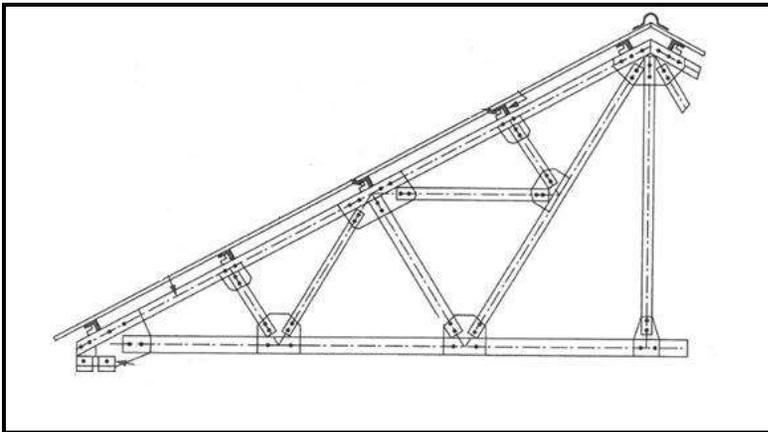

FIGURE 2.3
2.3 FIGURE 2.3 below shows half of a simple roof truss that is bolted together.